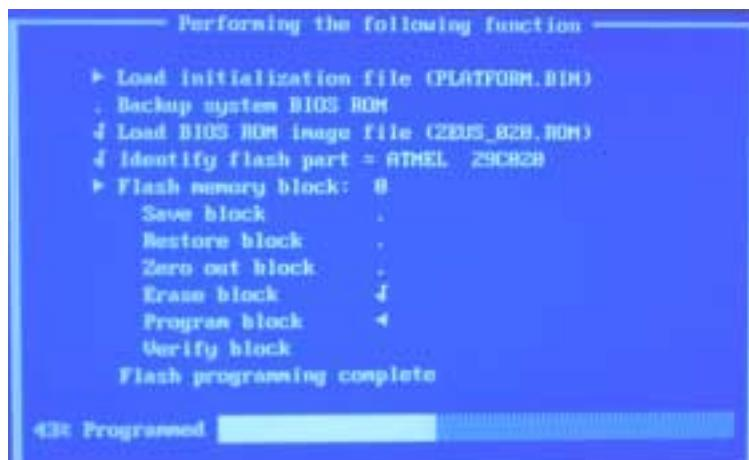

Figure 16-5 Phlash program
- Verify that Phlash program begins loading new BIOS version (see Figure 16-5).